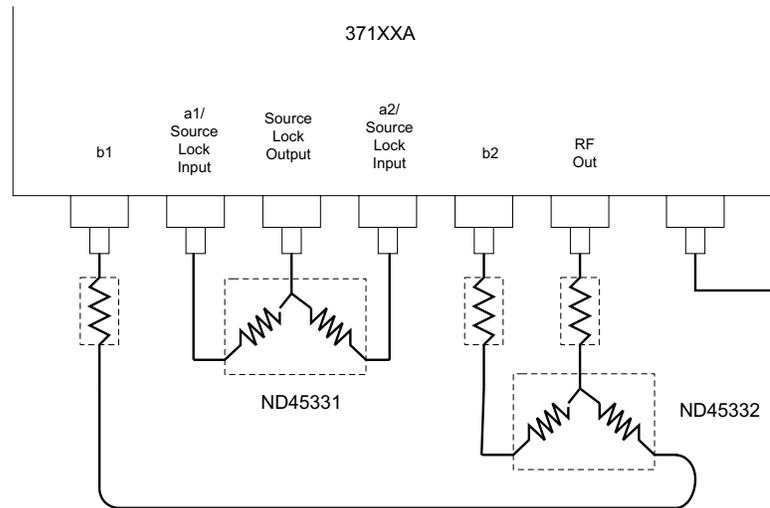

Figure 4-1. *Connecting the Test Fixtures*
Step 1. Connect Test Fixtures ND45331 and ND45332 to the 371XXA as shown in Figure 4-1 on the next page.
Step 3. Connect the ND45331 and ND45332 test fixtures to the 371XXA (See Figure 4-1).